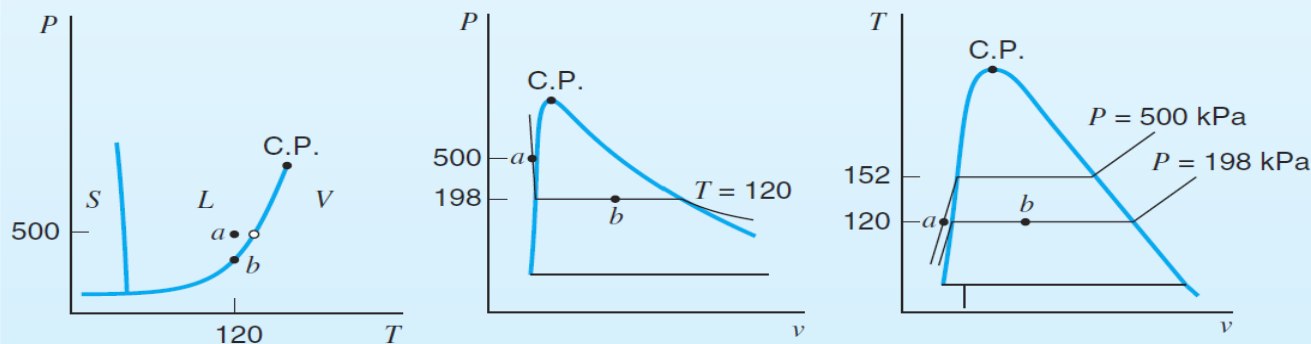

FIGURE 2.11 Diagram for Example 2.1.
- Enter Table B.1.1 with 120°C. The saturation pressure is 198.5 kPa, so we have a compressed liquid, point a in Fig. 2.11. That is above the saturation line for 120°C. We could also have entered Table B.1.2 with 500 kPa and found the saturation temperature as 151.86°C, so we would say that it is a subcooled liquid. That is to the left of the saturation line for 500 kPa, as seen in the P - T diagram.
so the state is a two-phase mixture of liquid and vapor, point b in Fig. 2.11. The state is to the left of the saturated vapor state and to the right of the saturated liquid state, both seen in the T - v diagram.
Determine the phase for each of the following states using the tables in Appendix B and indicate the relative position in the P - v , T - v , and P - T diagrams, as in Fig. 2.11.